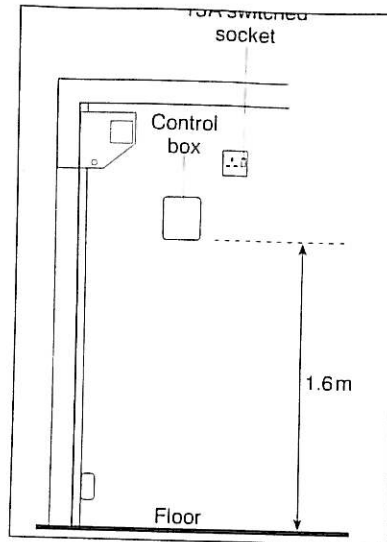

Fig 18
- The unit must be installed with the courtesy light at the top. Hold the unit against the wall at a height of at least 1.6 meters and mark where the screw fixings should be. (fig 18)